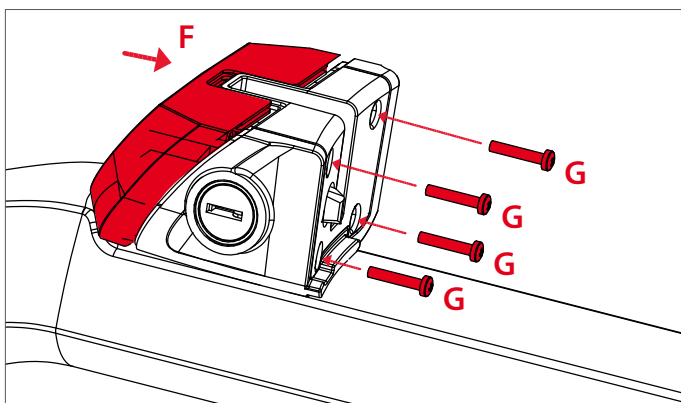

Figure 4.24 Mounting the front part
5. Mount the front part [F] and secure using the four 3 x 16 self-tapping fasteners [G] (Fig. 4.24).